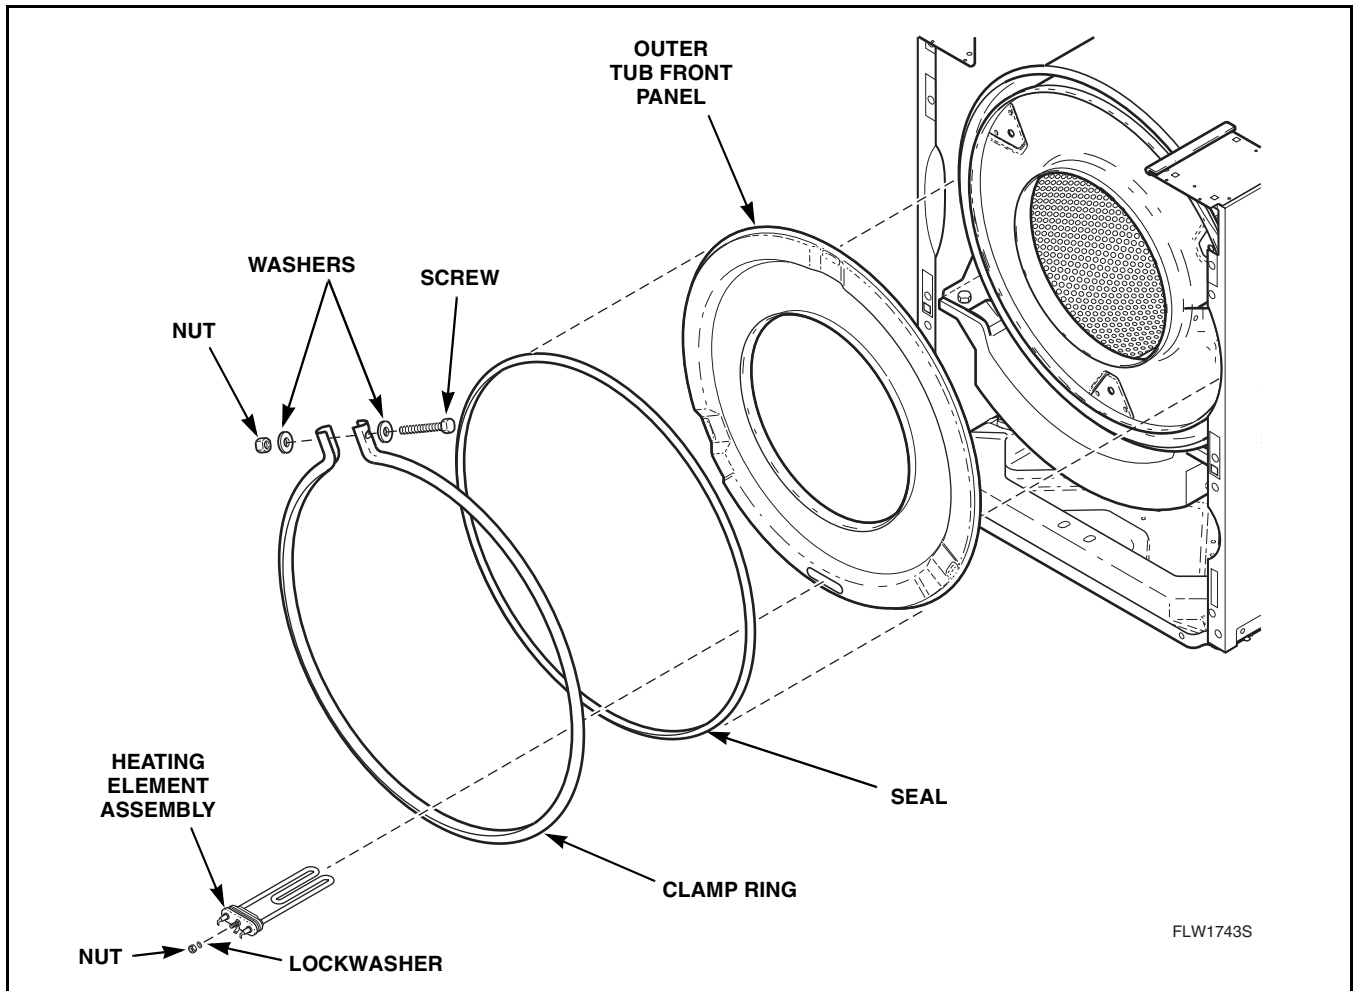

Figure 22
- Unscrew nut and lockwasher from center terminal of heating element assembly until nut is at end of threaded stud. Refer to *Figure 22*.
- Grasp heating element assembly by the terminals. Pull assembly and rubber washer through opening in outer tub front panel. Refer to *Figure 22*.